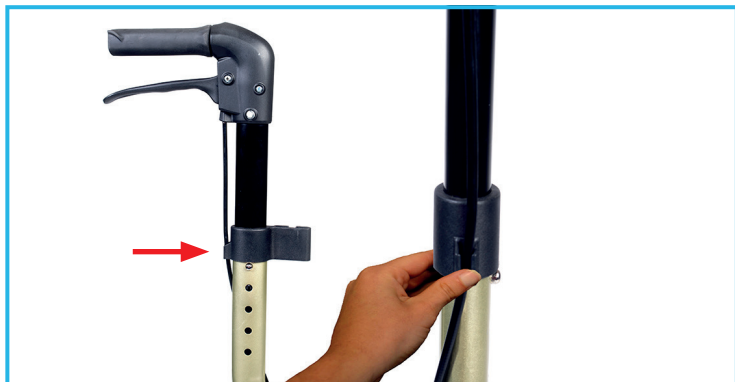

Figure 7: Attaching the Brake Cables
1. Refer to Figure 7. Push the brake cable into the clips at the top of the main frame.